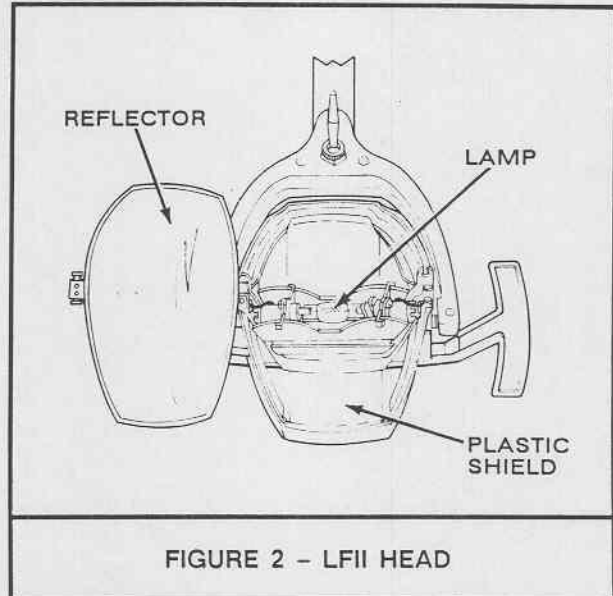

FIGURE 2 - LFII HEAD
**1.03 Lamp (Figure 2)**—The miniature quartz halogen lamp is durable and lasts many times the life of conventional lamps. Its self-cleaning process maintains constant light intensity throughout its long life. The lamp may be replaced in seconds and requires no tool.
**1.04 Plastic Shield (Figure 2)**—The plastic shield is provided as a safety feature to prevent water spray from splashing on the glass reflector and lamp. It also retains broken glass in the unlikely event a lamp explodes.
**1.05 Reflector (Figure 2)**—The dichroic coated reflector reflects desired light and allows unwanted heat to pass through the back. The shape of the reflector collects light from a wide angle and produces a high intensity glare free pattern approximately 3" (7.6 cm) to 8" (20.3 cm) wide at distances from 18" (45.7 cm) to 36"